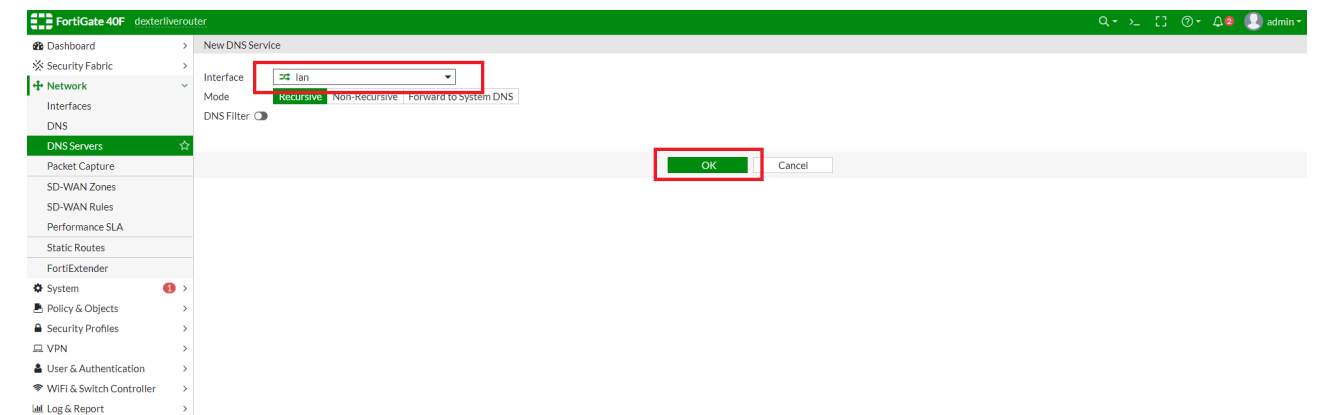

Figure 13
6. Configure the DNS Service to use the LAN interface by selecting "lan" from the "Interface" dropdown menu. Apply changes by selecting "OK". (Figure 13)